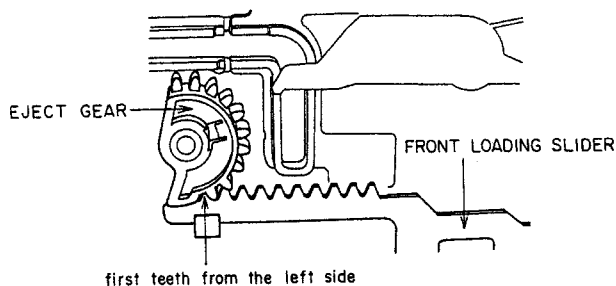

Fig. 3-12
1) Confirm that the EJECT GEAR is in the correct position as shown in Fig. 3-12.